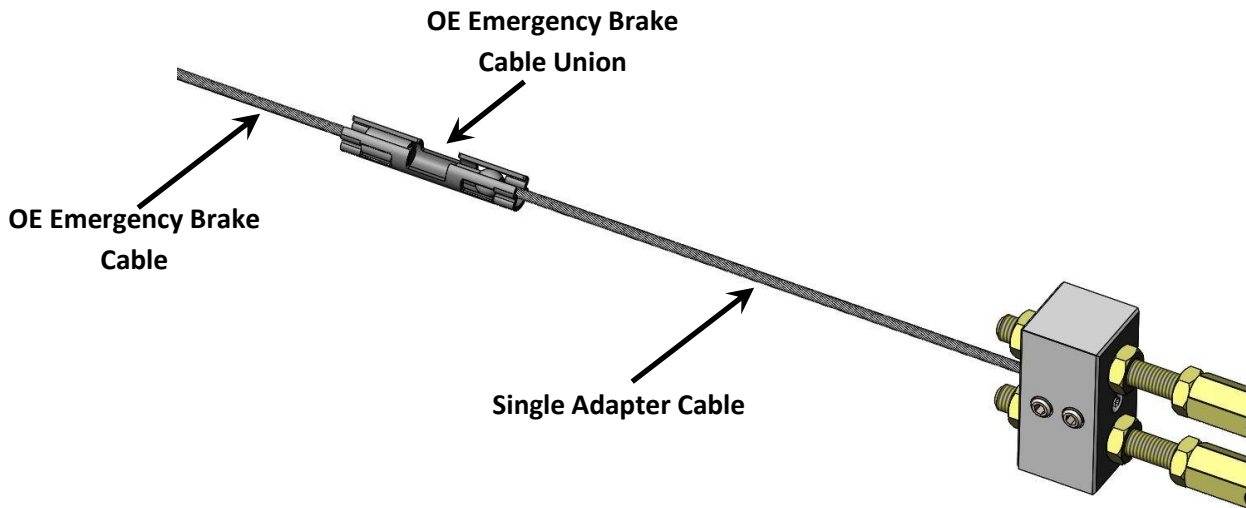
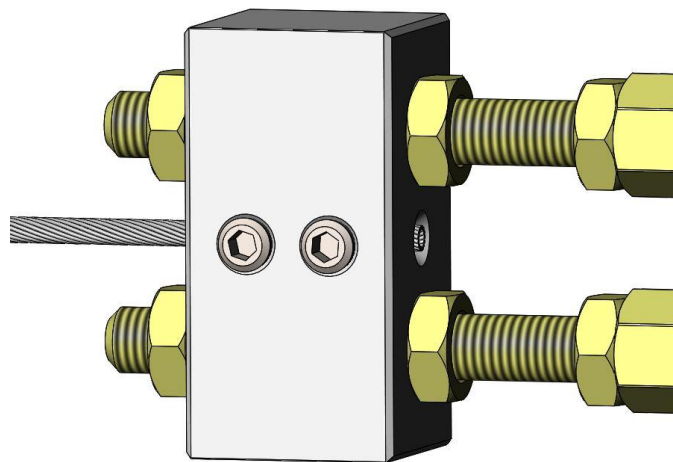

Figure 6 – Single Adapter Cable Installed
Figure 7 - Single Adapter Cable Installed in Aluminum Attachment Block
10. With both emergency brake cables installed into the Aluminum Attachment Block, connect the Single Adapter Cable into the OE emergency brake cable union. Once the Single Adapter Cable has been installed into the OE emergency brake cable union, insert the cable through the center of the previously installed Aluminum Attachment block. Mark the Single Adapter Cable at the rearward edge of the Aluminum Attachment block, then remove the cable and cut. Once cut, re-install the cable and tighten both of the 1/4"-20 x .500" Set Screws holding it into the Aluminum Attachment Block. Refer to Figure 6 and Figure 7 on the next page for reference.